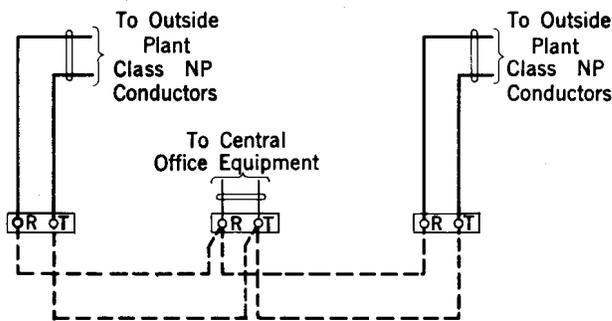

Fig. 23—Class NP to Class NP Conductors—Looped—Bridged to Central Office Equipment Terminated on Terminal Strips
6.28 Where the central office circuit terminates on a terminal strip, cross-connections shall be made as shown in Fig. 23.